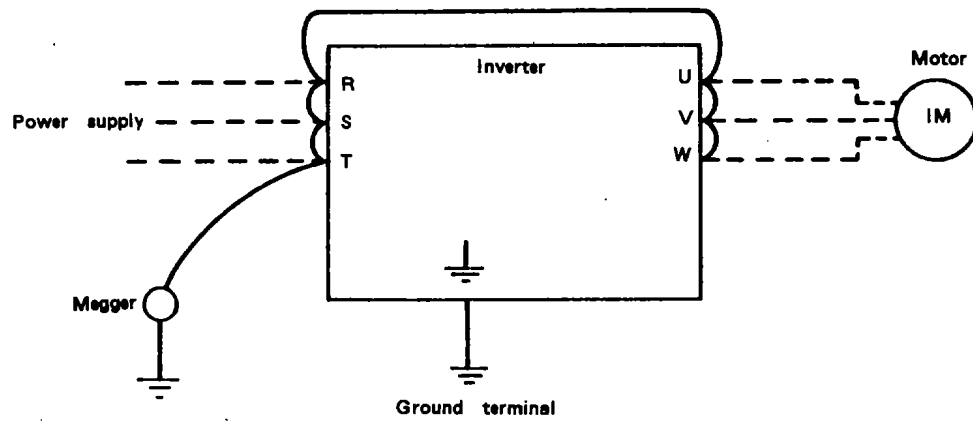

Fig. 7 Insulation resistance test with megger
(3) Insulation resistance test with megger
- (b) Conduct the insulation resistance test on the inverter main circuit only, as shown in Fig. 7.